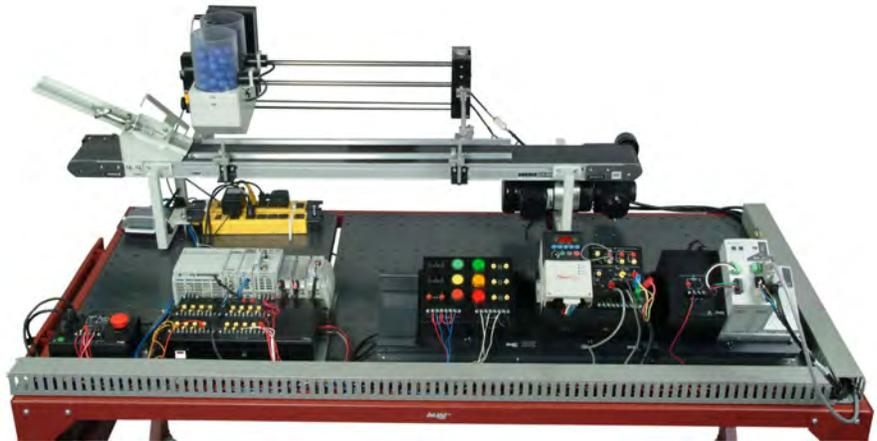

Figure 34. Gearing the Servo Drive to the Conveyor setup.
4. Once completed, the setup should look as shown in Figure 34.